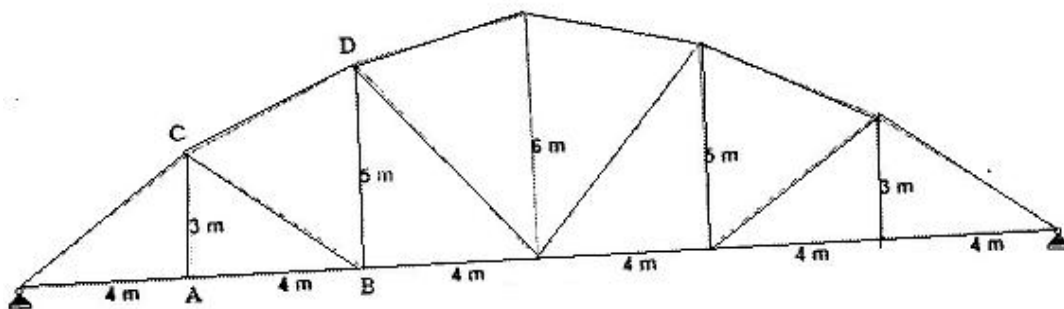

Figure 1
- 13 For the truss shown in Figure 1, draw the influence line diagrams for the forces in the members AB, AC and BC.